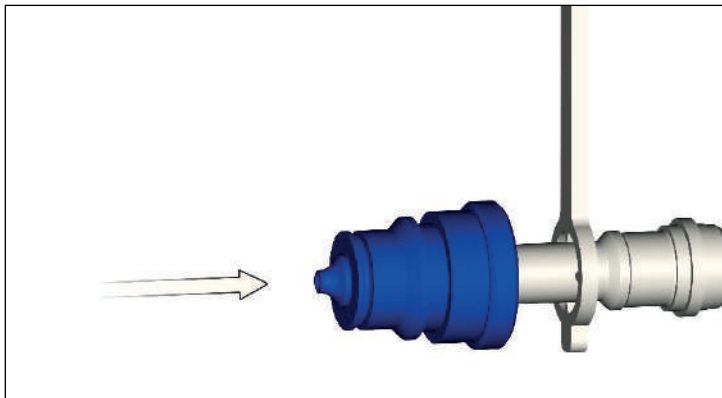

Figure 10-10 Automatic battery watering system pump connection
- Attach the other end of the hand pump to the valve (See Figure 10-10).